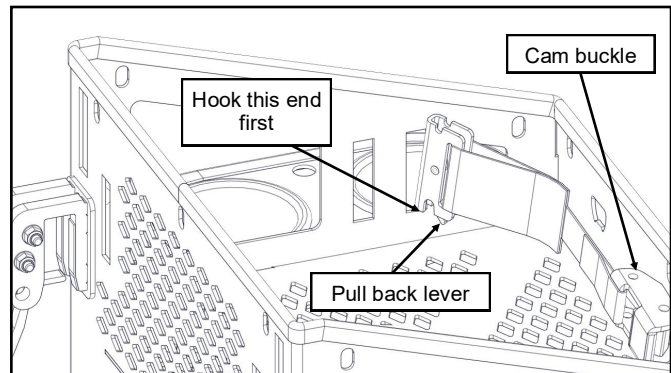

Fig. 3a (install fixed end of hold-down strap)
3. Based on the size of your beverage cooler, locate the best E-track slots that meet your needs. Install the fixed end of the strap first. To install the E-track fitting, pull the release lever towards the cam buckle, hook the release lever end of the fitting into the mount and then insert the other end. Release the lever. See figs. 3a & b.